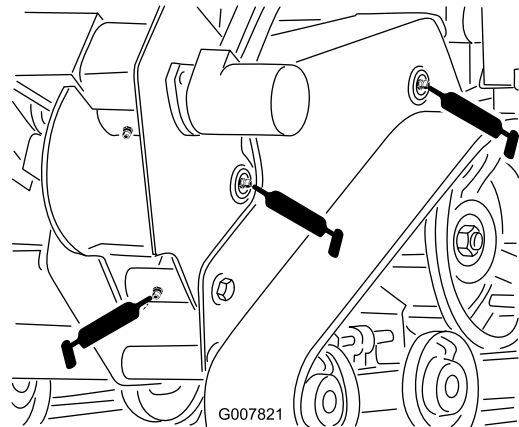

Figure 23
4. Connect a grease gun to each fitting (Figure 23 through Figure 26).